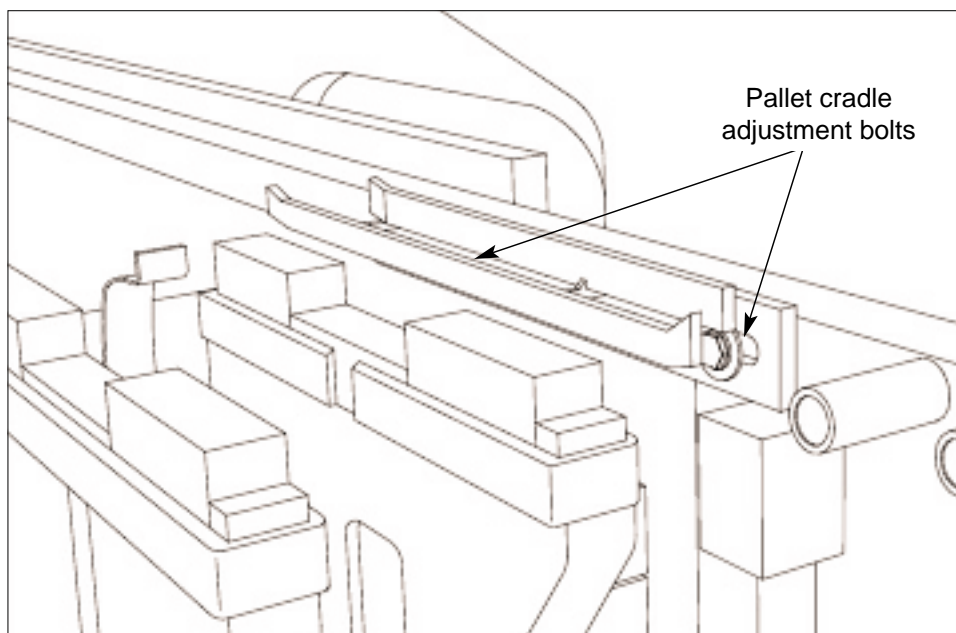

Figure 6.9 ADJUSTING THE PALLET CRADLE.
6.2.3 Adjust pallet cradles to be centered with pallet receiver rubbers (see figure 6.9).